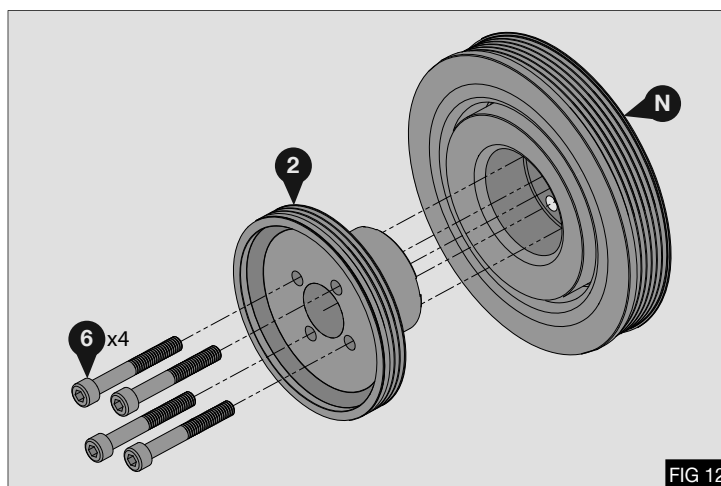

FIG 12
1. Fit the crankshaft pulley (2) using 4x M8x60 cap head bolts (6) - Fig 12
2. Torque bolts (6) to 35Nm/26Lbft